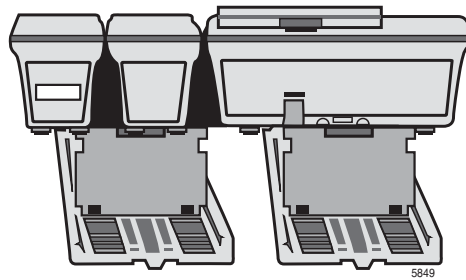

Figure 7-24 Tilt Stands in Raised Position for DKT and Two ADMs
7. Pull up on the Tilt Stand Bases so that they open to the maximum angle (30 degrees). See Figure 7-24.